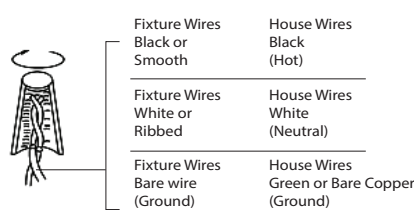

FIG. 3
3. Remove the mounting plate screw (B) and mounting plate from the fixture.
**Note:** Due to limited space within the canopy, shorten the wires as necessary to make the installation easier. Make sure to identify and label all the wiring properly (Fig. 3) before any trimming/shortening. **Warning:** Modifying the fixture may result in voiding the warranty of the product. Only licensed persons should trim cables and perform rewiring.
6. Connect the fixture wires to the 3CCT switch as shown in Fig. 3. Brown to brown, blue to blue, red to black. Ensure wire connectors are secure. The lamp can switch between three color temperatures (3000K-3500K-4000K), which can be adjusted to your preference with the switch in the canopy (Fig. 3).